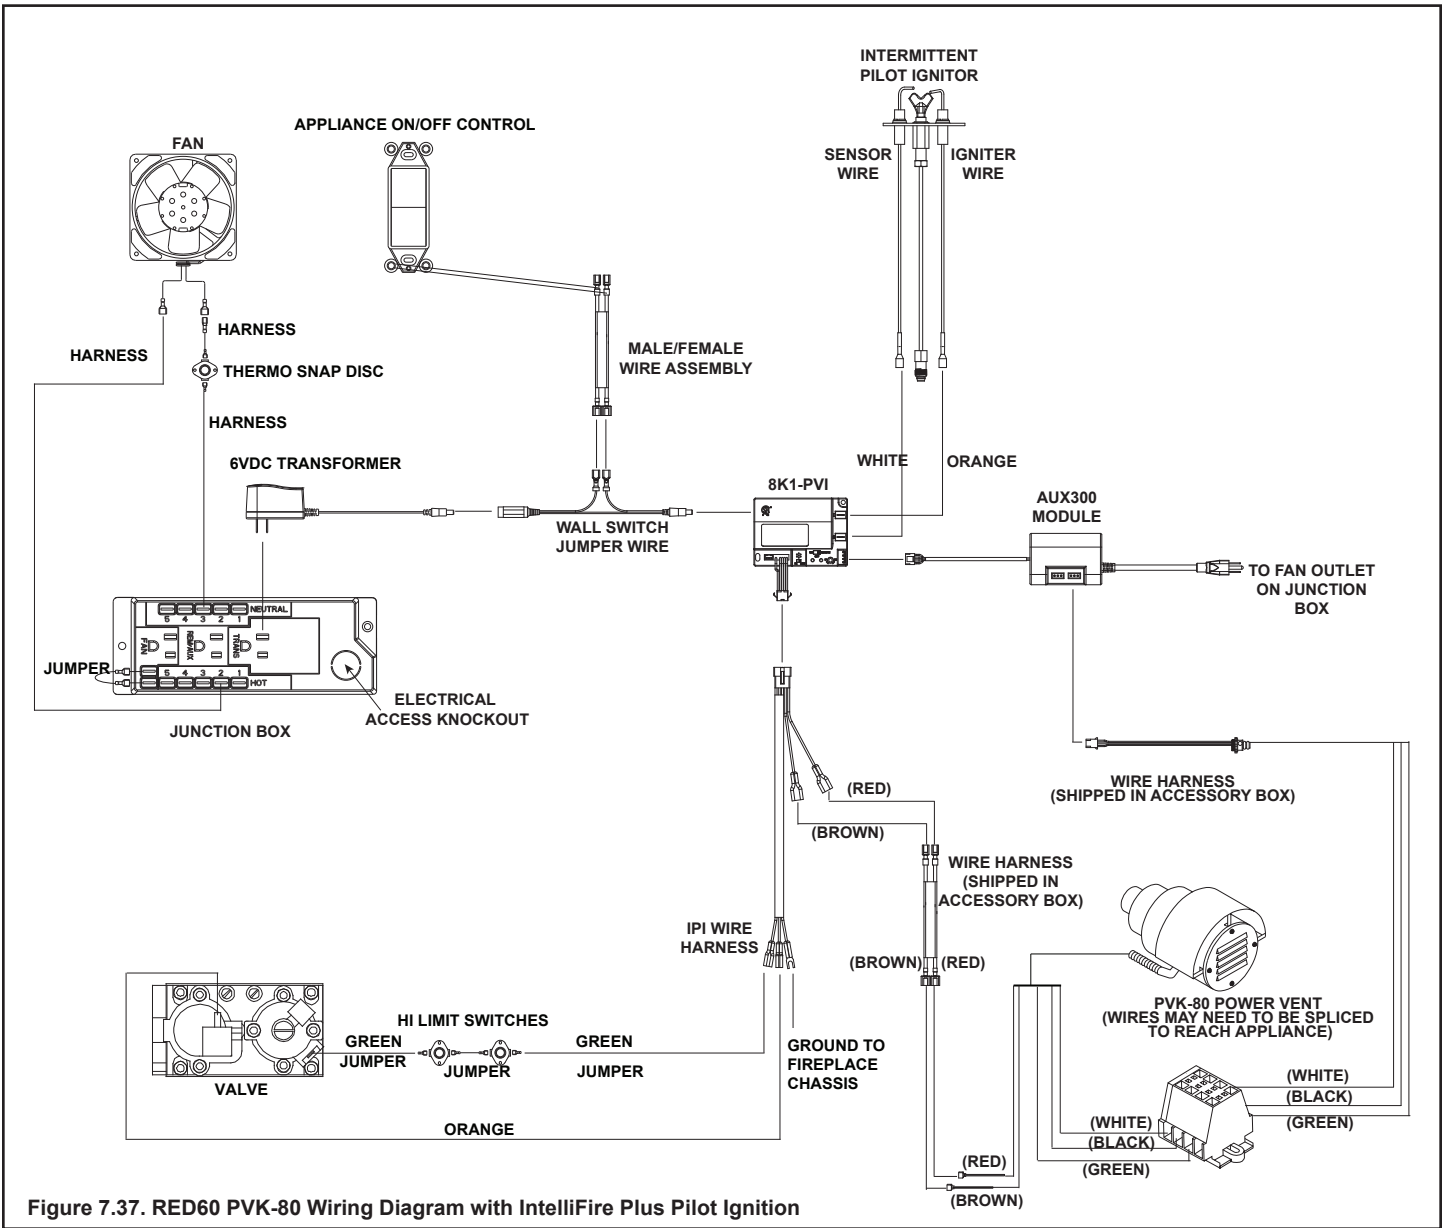

Figure 7.37. RED60 PVK-80 Wiring Diagram with IntelliFire Plus Pilot Ignition
1. Refer to RED60-PVK-80 wiring diagram. See Figure 7.37.
7. Place the PVK-80 terminal block assembly in the cavity under the fireplace behind the blower using provided velcro pads. See Figure 7.35. Connect the black, white, and green wires from the power vent assembly to the terminal block according to the wiring diagram. See Figure 7.36 and Figure 7.37. Attach 1/4 inch male wiring connectors to red and brown wires from PVK-80 Power Vent.